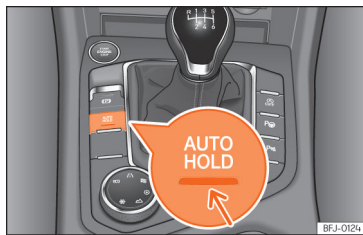

Fig. 155 In the lower part of the centre console: Auto Hold function button.
- (P) When the Auto-Hold function is active, the control lamp on the instrument cluster lights up green. The control light of the  >>> Fig. 155 button remains on when the Auto Hold function is connected.